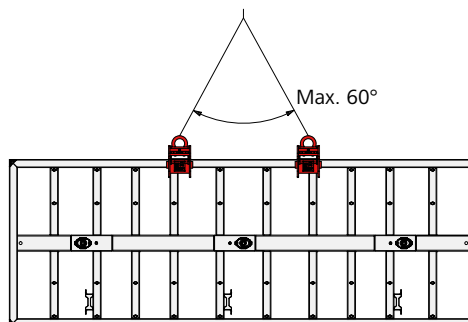

Fig. 28.6
- using the cross stiffeners on horizontal panels (Fig. 28.6)